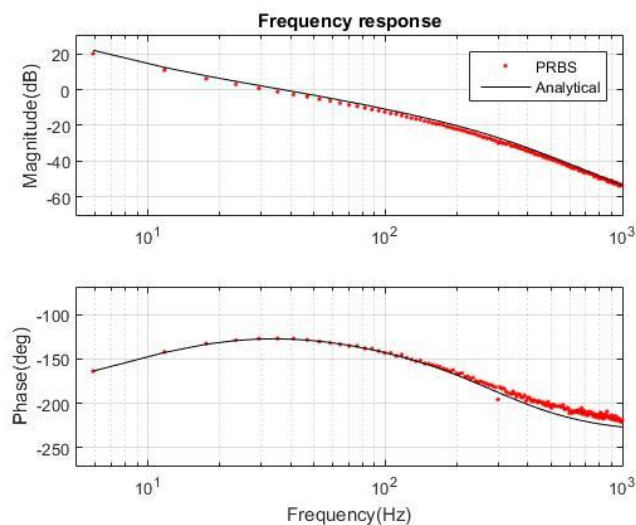

Fig. 2. Analytical and measured frequency response of PLL loop gain
- Name figures as an example below. Refer to the figure in the text e.g. “the magnitude decrease as the frequency decrease as shown in Fig. 2”.
Note, what means analyse! For example, “the red and black curve are almost the same, the red curve is a bit higher in the lower figure than the black curve” do not analyse Fig. 2. Instead, you should write e.g. “it can be shown from figure 2, that the frequency response measured by using PRBS methods gives highly accurate results. However, the measured phase slightly differs from the analytically calculated phase at high frequencies because of different operating point”.